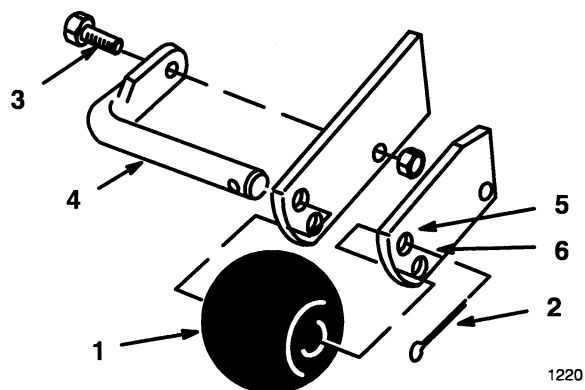

Figure 20
2. Remove cotter pin, bolt and shaft to change hole location (Fig. 20).
3. Select the hole position for the height-of-cut to be used and insert rod (Fig. 20).